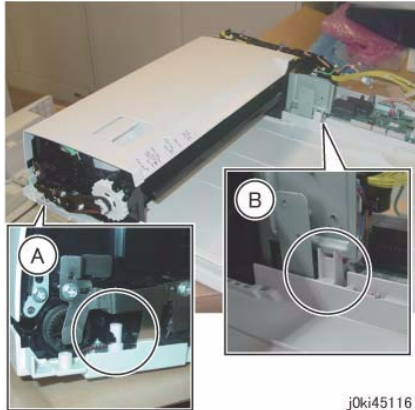

Figure 4 Check the following (A) and (B)
3. When installing the DADF Feeder Assembly to the Base Frame, check the following A and B. (Figure 4)
- (A)At the front: The Frame of the DADF Feeder Assembly is attached to the positioning pin of the Base Frame as shown in the figure.
- (B)The Bracket of the DADF Feeder Assembly is attached to the support of the Base Frame as shown in the figure.